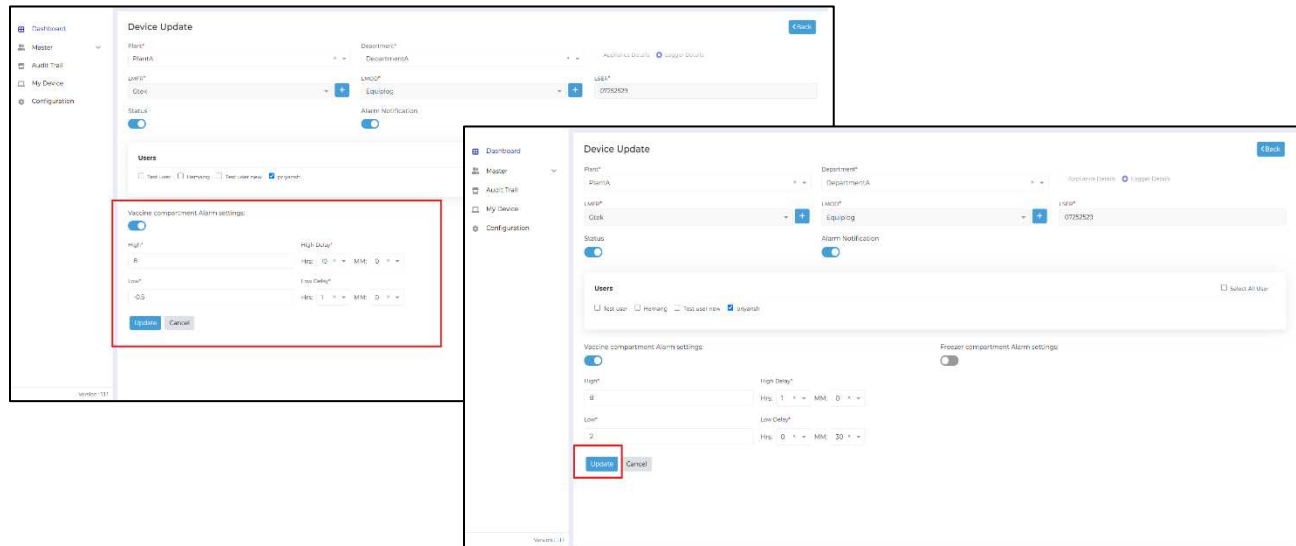

Figure 63 Alarm Threshold Adjusting for selected device
- In the device edit option, user can adjust/update the alarm setting parameters for High and Low Alarm set point and its alarm delay for vaccine and or Freezer compartment as shown in figure 63.